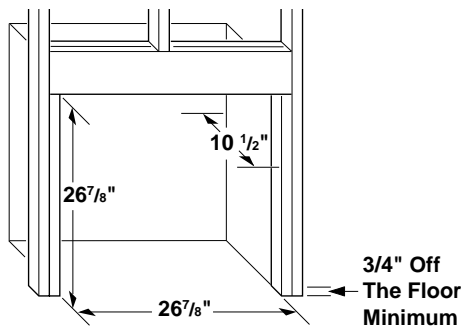

Figure 5 - Rough Opening for Installing in Wall
- Frame in rough opening. Use dimensions shown in Figure 5, page 8, for the rough opening.